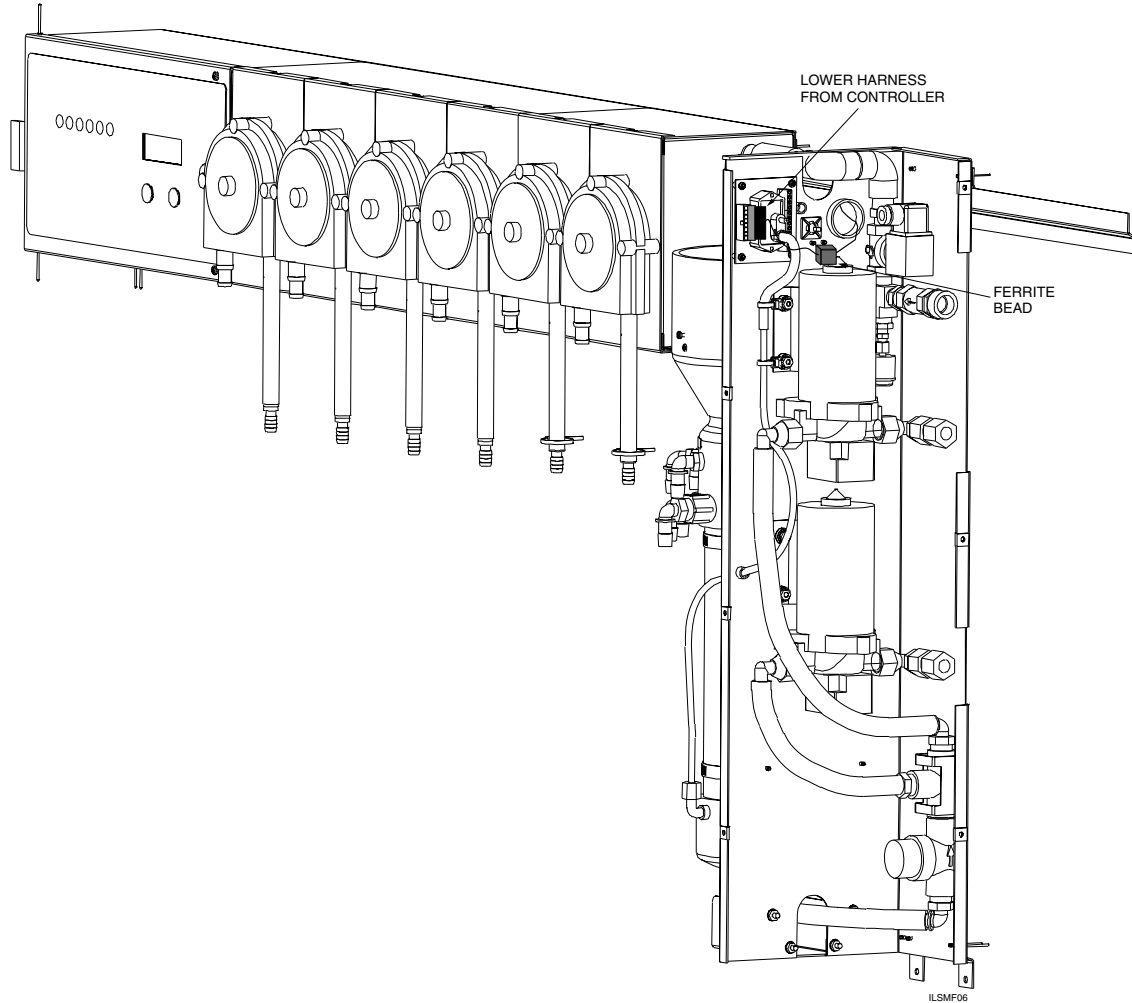

Figure 7. Transport Module Components and Connections
13. In the Transport Module (see Figure 7), thread the lower wire harness behind the upper section of the mixing chamber, through the hole in the support wall. You may need to loosen the hose clamp on the mixing chamber to pull the wire harness through the hole.
For CE conformance, a ferrite bead must be installed around the lower wire harness (to the transport module) inside of the controller box. See Figure 7. (Ferrite bead is included in Installation Kit.)
- To use 5/8-inch OD polyflow tubing, connect the output (compression fitting(s)) of the Transport Module pump(s) to the washer(s). See Figure 7. The maximum tubing length between the Transport Module and the washer(s) is 200 feet. Avoid sags in the tubing.